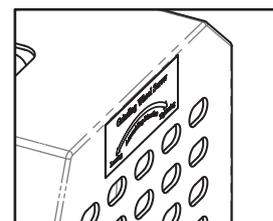

Fig. 16-1
- ① Unplug the power cord and make sure the power is off.
- ② Confirm the screw direction on the grinding wheel cover before changing the grinding wheel. (Fig. 16-1)